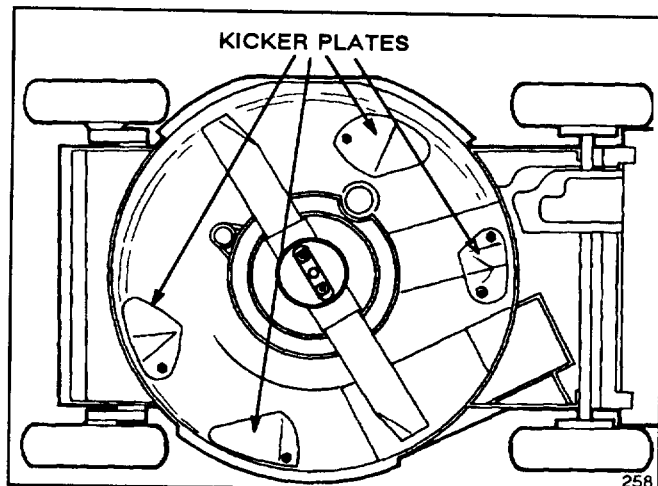

Figure 20
2. Tip mower on its right side (Fig. 20). Avoid rotating blade because starting problems may result.